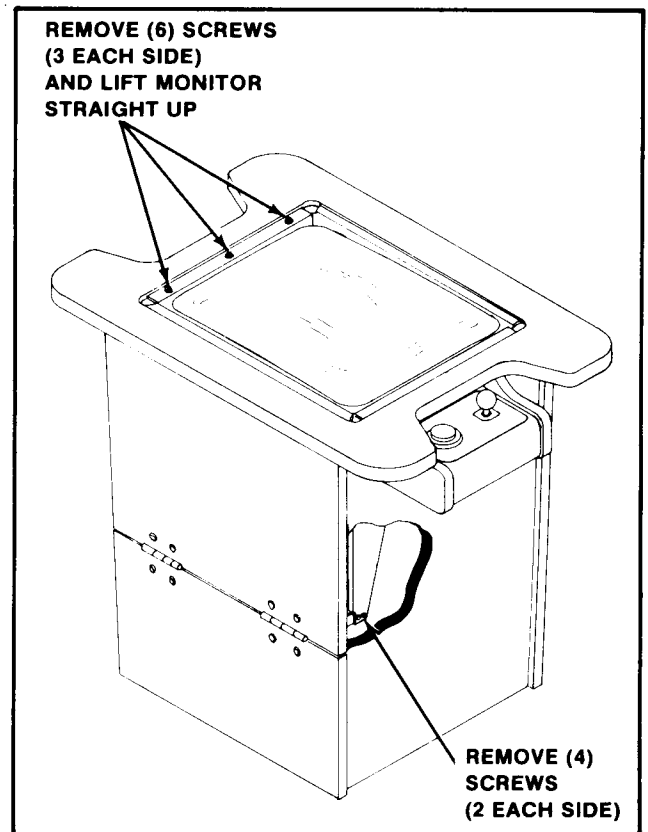

Figure 4-9 Removing the Monitor — Cocktail Game
2. **COCKTAIL TABLE MODEL:** See Figure 4-9.
- Remove the screws holding the T.V. monitor chassis to the "L" brackets by the door hinge(s). See Figure 4-9.
- Remove the screws which secure the T.V. monitor mounting brackets to the edges of the slot cut in the table top. See Figure 4-9.